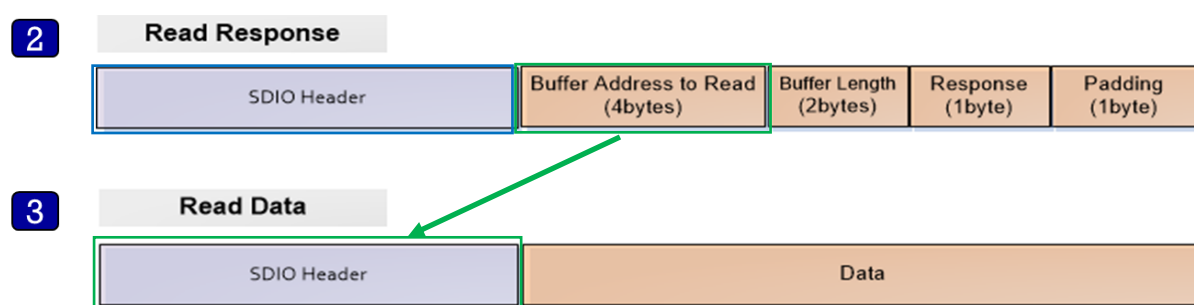

Figure 16: Structure
2. The Host reads the response message from Response Command address (0x50080258, blue rectangle in Figure 16), and parse it using `struct _st_host_response` (see Table 11).
3. The Host reads data from address (BUFF\_ADDR) which is received from Slave in the response message (green rectangle in Figure 16).